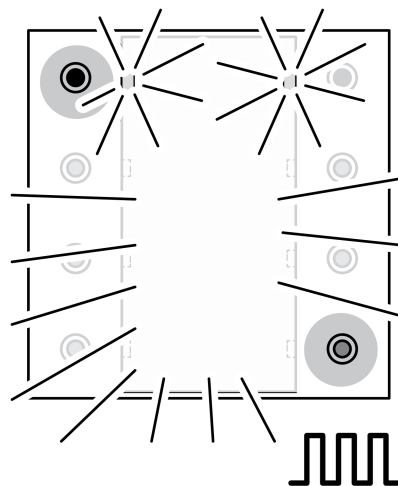
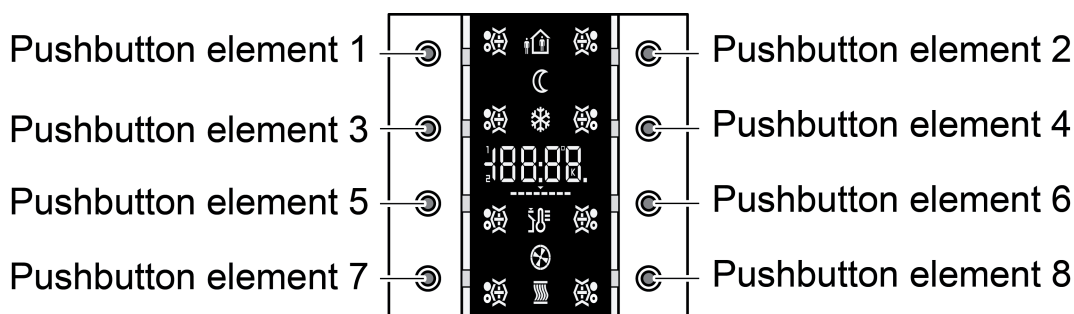

Figure 9: Actuation points for activating programming mode
Figure 10: Arrangement of the pushbutton elements
- Activate Programming mode. Press the actuation point at the top left (1) on the TSM and keep it depressed (figure 9). Then press the second actuation point at the lower right (pushbutton element 8) (figure 10).
The device possesses 8 mechanically separated pushbutton elements. The operating areas are the pushbutton elements combined under an attached design cover. Irrespective of the device variant, the device always possesses eight pushbutton elements. In the 2-gang device variant, 2 pushbutton elements are always combined to form a control surface. The pushbutton elements are visible when no design covers are attached. In the 2-gang device variant, two pushbutton elements are always combined to form a button. Using pushbutton elements 1 and 2, (figure 10) it is possible to operate the operation level and the menu level of the display. For this reason, full-surface operation of rocker 1 is not possible when the menu level is enabled. Depending on the configuration, it is possible to implement a change of the display using each button.